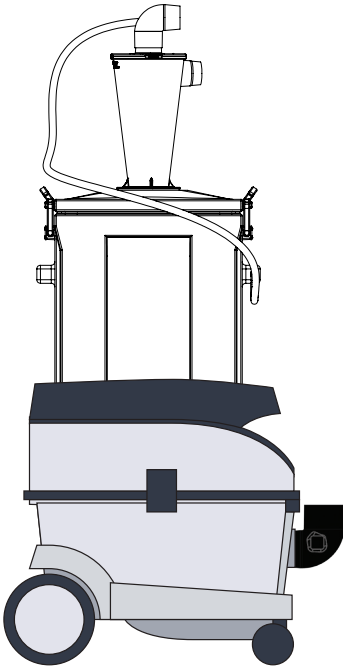
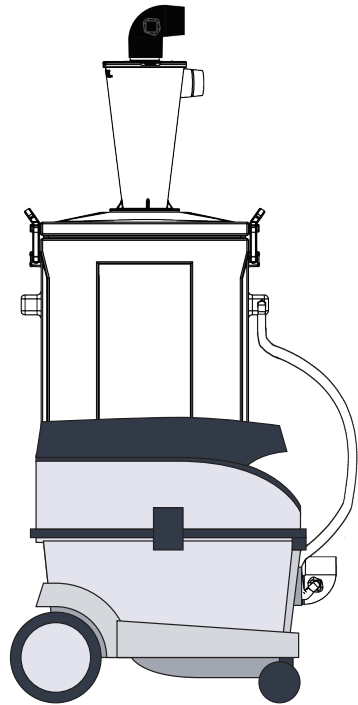

FIG. 11a
FIG. 11b
- 11** Position the 2" SD Elbow with Straight Fitting (G8) in one of two locations: over the top port of the Cyclone (A) [FIG. 11A] or into your vacuum's grounded inlet [FIG. 11B]. Choose a location that best accommodates the length of Vinyl Tubing (F) with your system.